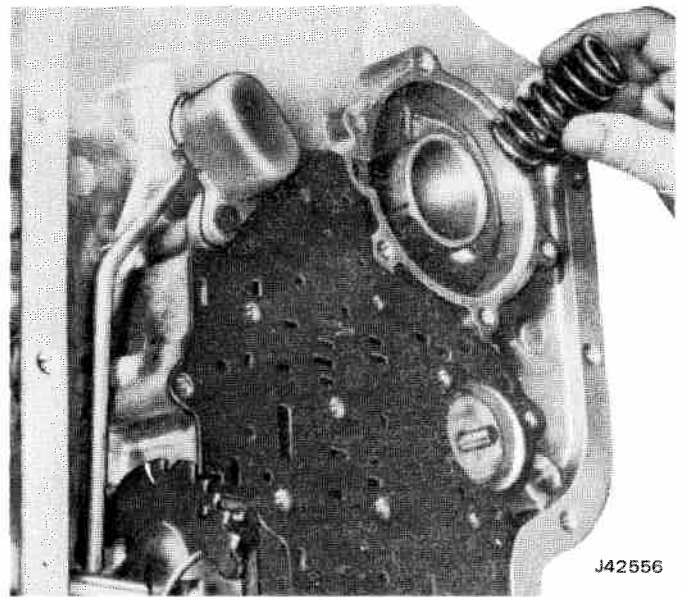

Fig. 7-126 Rear Accumulator Spring Installation
- (1) Select proper length of band-apply pin.
- (2) Install rear accumulator spring in transmission case, as shown in figure 7-126.